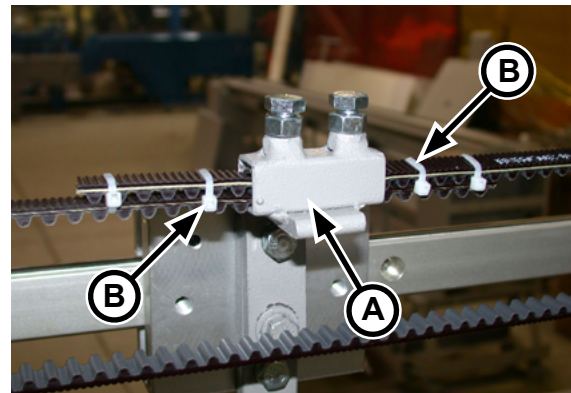

Figure 7-5: Brackets hold the sections of the upper spreader belt in position.
7. Locate one of the two bracket assemblies which secure the two sections of the belt (Figure 7-5, A) and cut the plastic wire ties which secure the ends (B).
- Make sure the “teeth” of each segment are properly oriented. If necessary, refer to Figure 7-5.